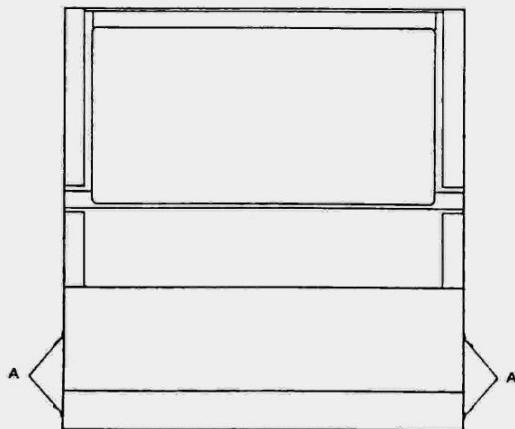

Fig. 6.10
6.11 AMPLIFIER ASSEMBLY (Fig. 6.10)
- * Remove the eight screw (A) - four on each side.